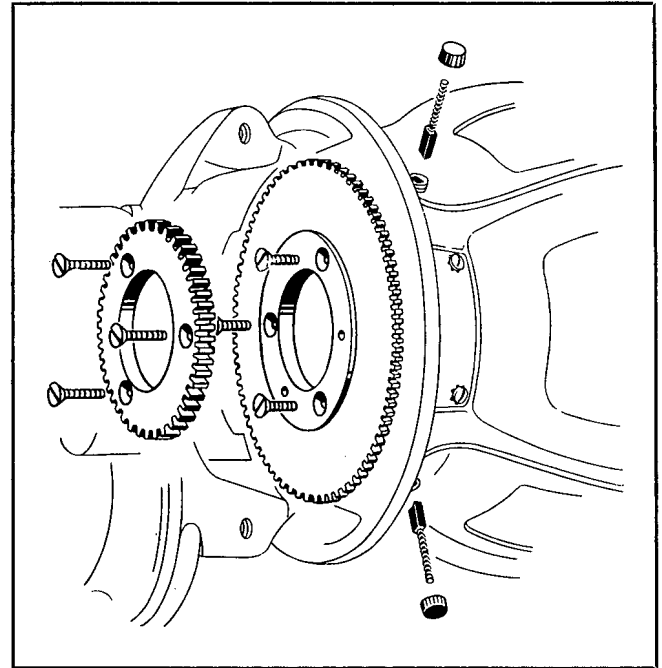
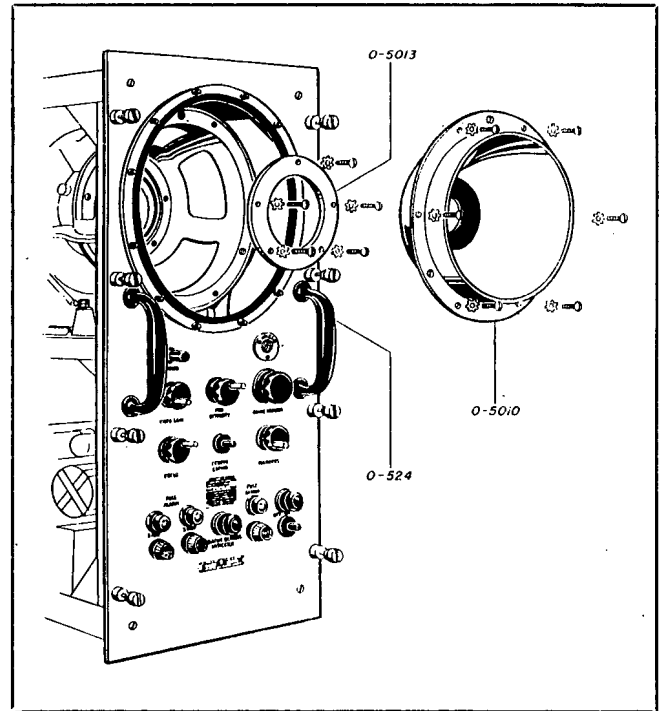

Figure 7-48. Removing Synchro Drive Gear
Figure 7-49. Removing PPI Tube Shield and Retaining Ring
(a) First remove the focus coil. See previous paragraph. Reach into the assembly from the rear and remove the three flat head screws that secure the gear. See Fig. 7-48. Grasp the yoke coil to prevent rotation and turn the gear on coil, pulling lightly on gear. The gear will slide off. Replace by reversing this procedure.
(a) Remove the focus coil and synchro drive gear as previously described. Remove the brushes as shown in Fig. 7-48. Unbolt the tube shield and remove it through the front panel as shown in Fig. 7-49. Unbolt bearing retaining ring and remove. Slide the yoke coil forward out of the casting. The front bearing will come out and the coil may be removed by lifting
24. Remove the three screws in the synchro drive gear and remove the gear. See Fig. 7-48.
25. Remove the three screws in the yoke-driven gear and remove gear. See Fig. 7-48.
27. Take out the screws securing the tube shield to the front end of the casting and remove the shield. See Fig. 7-49.
28. Take out the five binding head screws from the front yoke bearing retainer ring and remove the ring. See Fig. 7-49.